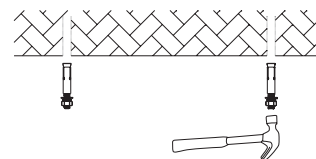

Figure 3
3. Knock the expansion screws into the holes, then remove nut and washer. (Figure 3)